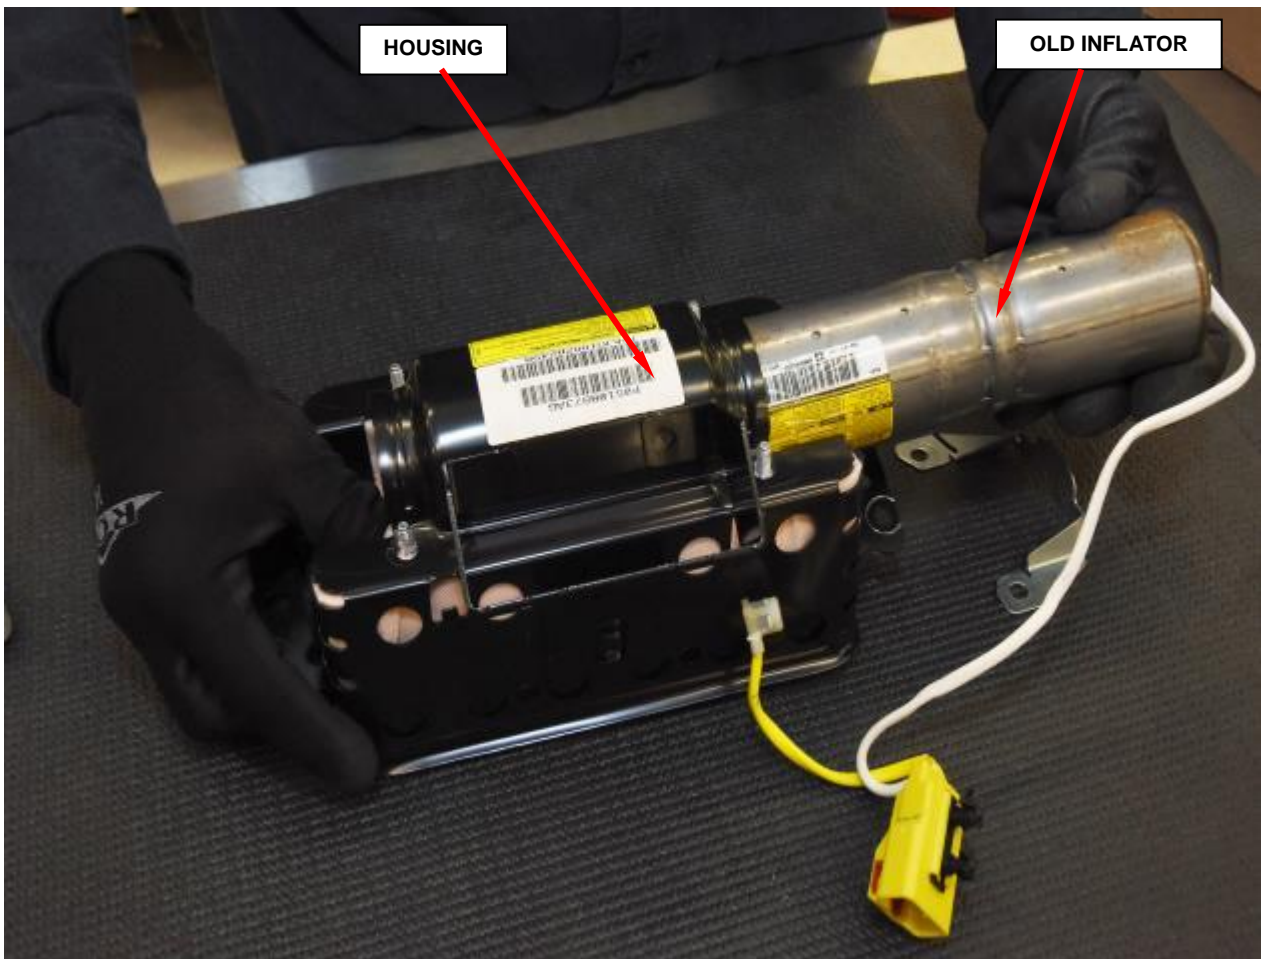

Figure 53 – Passenger Airbag Inflator Removal
- g. Slide the inflator out of the housing (Figure 53).